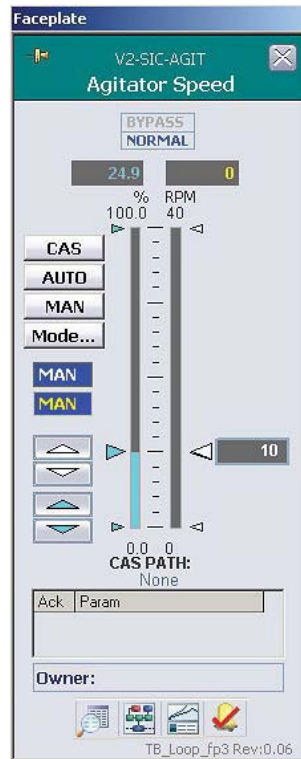

Figure 2.29. Agitator faceplate.
2. Clicking **Agitator** on the main screen will open the faceplate (Figure 2.29).